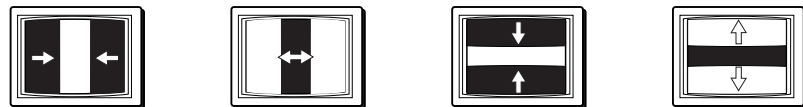

Figure 3-33 — Curtain wipe effects
- A **curtain wipe** causes the preview image to appear to unroll over the program image in two directions simultaneously. A curtain wipe can have either hard (sharp) or soft (fuzzy) edges. The preview image can have the following transitions (figure 3-33):